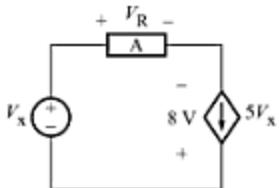

Fig. A-55
- A-6. In the circuit shown in Fig. A-55, if  $V_x = 1 \text{ V}$  and  $V_R = 9 \text{ V}$ , calculate (a) the power absorbed by the element  $A$ , (b) the power supplied by each of the two sources. [Ans. (a)  $45 \text{ W}$ ; (b)  $5 \text{ W}, 40 \text{ W}$ ]